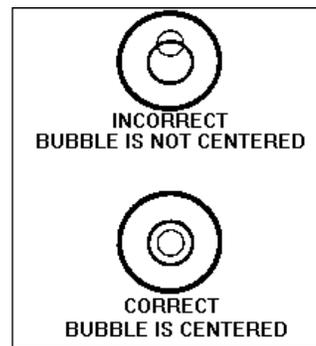

Figure 8a
- 7). Level the scale by turning the adjustable feet on the bottom of the base in or out until a level condition is attained, and the scale does not rock. The scale is in a level condition when the level bubble on the spider assembly is as shown in Figure 8a.